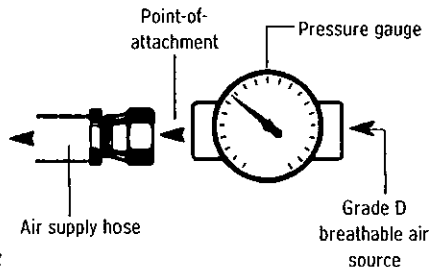

Figure 2
4. Adjust the air pressure at the point-of-attachment to within the approved pressure range (Figure 2). See the Air Pressure section on the front page.